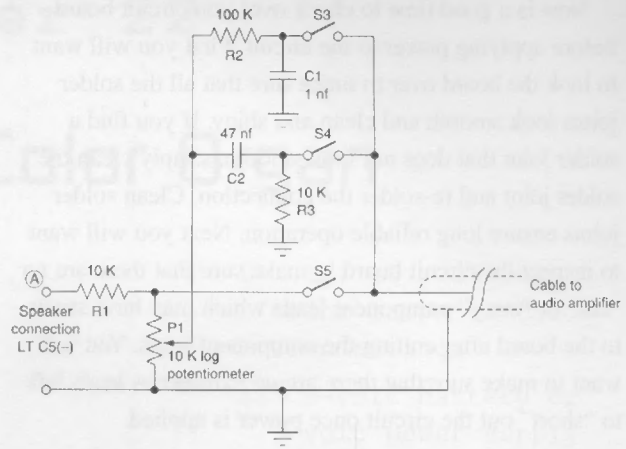

Figure 21-6 Mini Organ amplifier output connections
The Mini Electronic Organ creates sound through its 8-ohm speaker, but you can also elect to send the output from the electronic organ to a mono or stereo amplifier system if desired. The circuit shown in Figure 21-6 illustrates a circuit which can be used for this purpose. This simple interface circuit is used by removing the speaker from the circuit and connecting the resistor at R1 or point (A) to the minus (-) lead of capacitor C5. Potentiometer P1 adjusts the output of the Mini Electronic Organ circuit's audio level. The potentiometer is fed to a two-filter network which can be switched in and out of the circuit for different sound effects as desired. The values given for the C1/R2 network and the C2/R3 network are examples or “starting” points; you can experiment with these values for the desired sound. The output of the interface circuit should be a shielded cable to the amplifier of your choice.